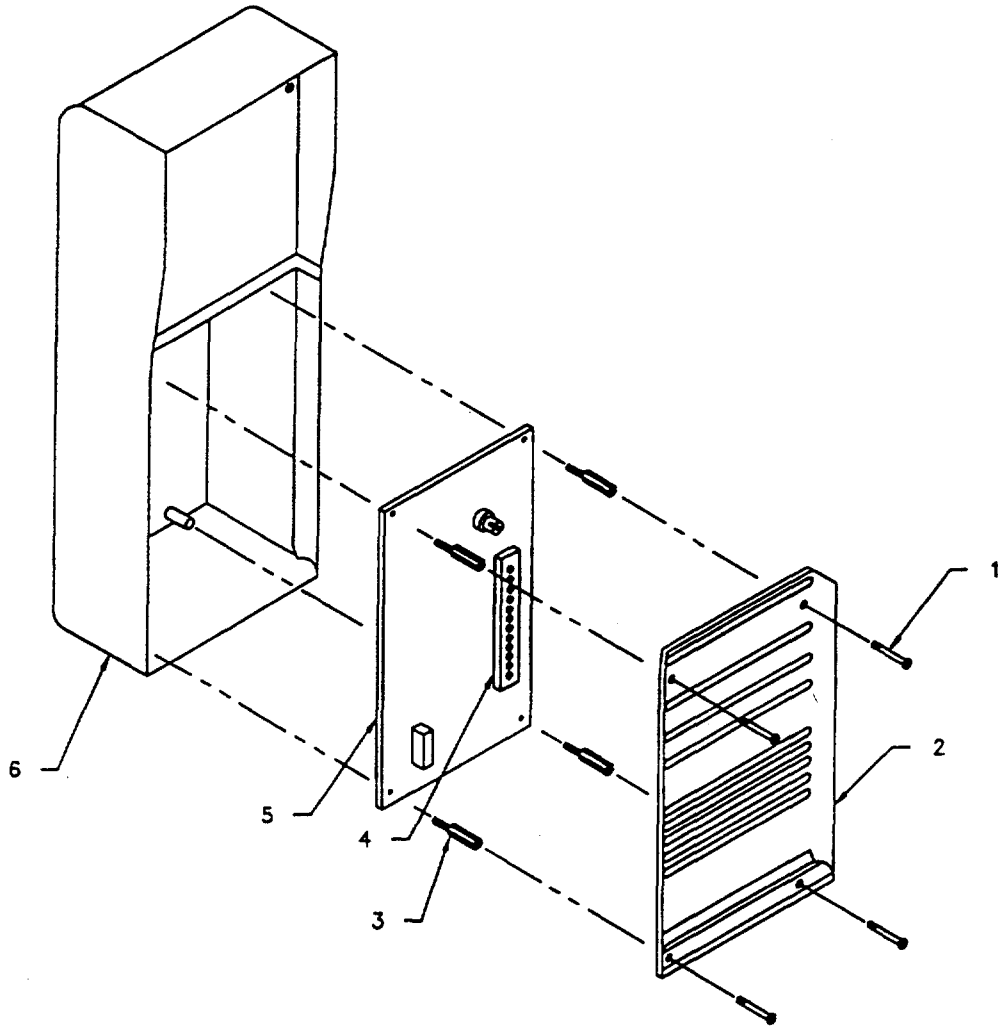

Figure 3-69. Removal and Replacement of Radio Frequency Motion Sensor PWA
- (1) Align PUS with support assembly holes and secure with four screws (3).
- (2) Insert cable assembly through input connector (4) and secure to PUS housing with nut.
- (3) Connect tagged wiring to TB1 (5).
- (4) Align plate assembly cover with holes on PUS housing and secure with four screws (1).
- (5) Align sensor. Ref. (SAIG, Appendix E, Section 4).
**3-124. REPLACE RADIO FREQUENCY MOTION SENSOR PWA.** (Figure 3-69).